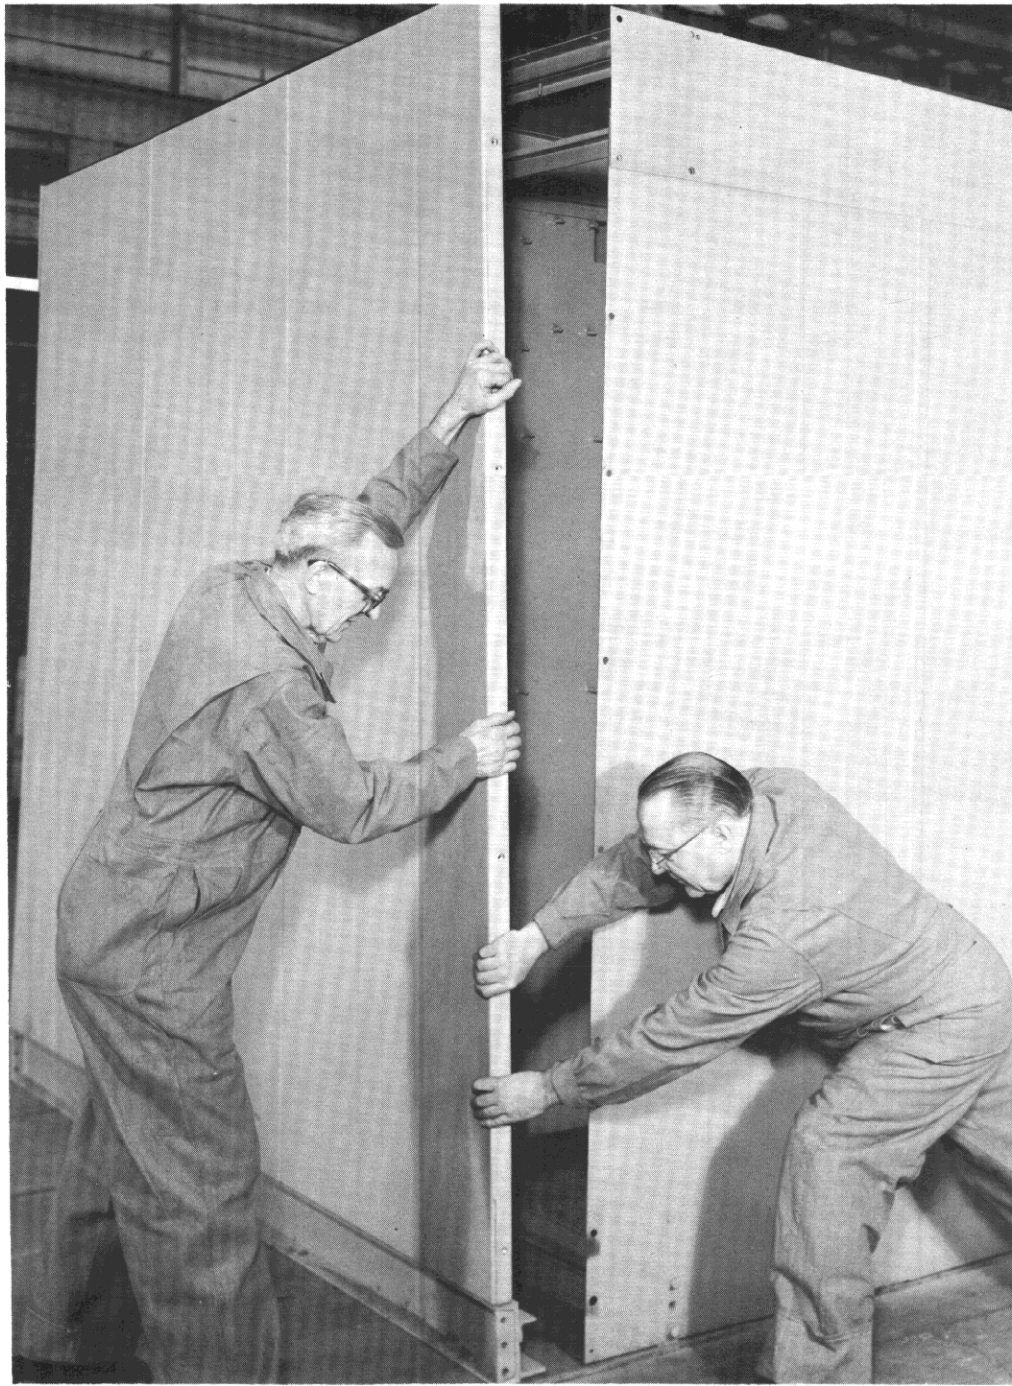

Fig. 4. Remove Aisle Front Panel Assembly
6. The panel assembly is then removed from the shipping group, see Fig. 4, and placed in position in accordance with the